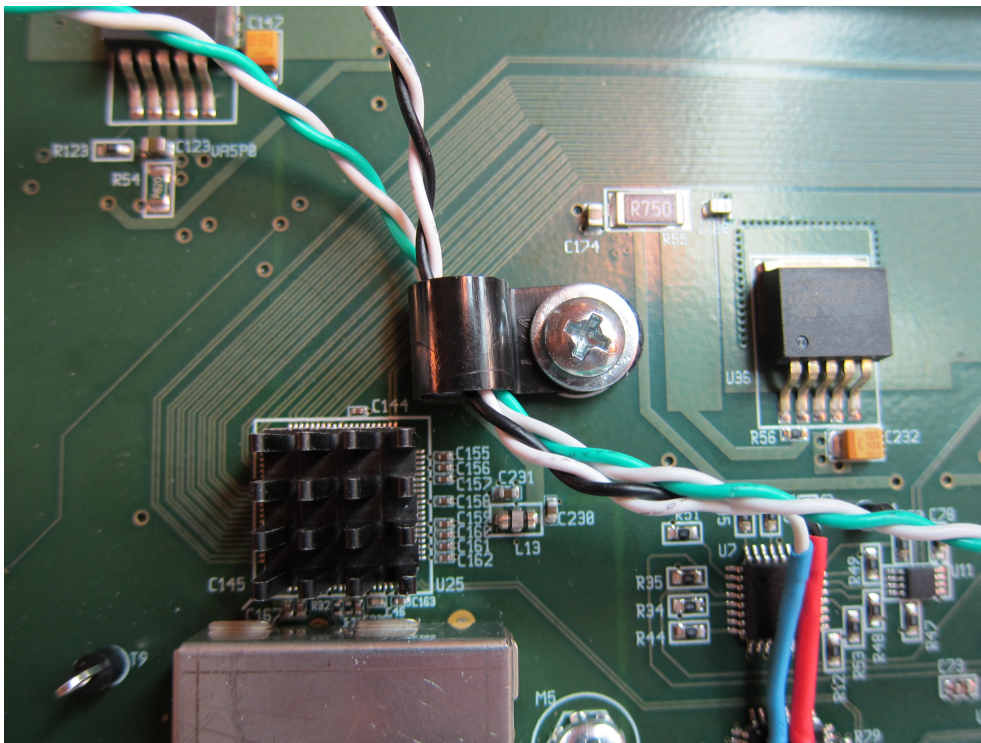

Figure 33: Mounting point M4 with the cable clamp.
6. Route temperature sensor cables through 1/4" cable clamp (561-B0125) and install the clamp at mounting point M4, as shown in Fig. 33. Tighten to 4 in-lbs.